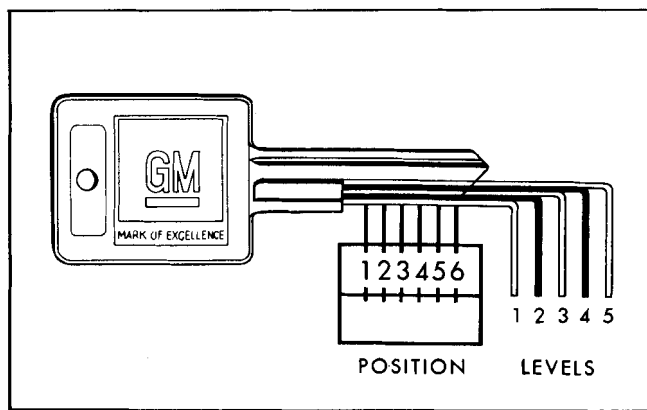

Fig. 0-15 Key Coding Diagram
1. Place the key on the silhouette in Fig. 0-15, aligning the key with the outline as accurately as possible.